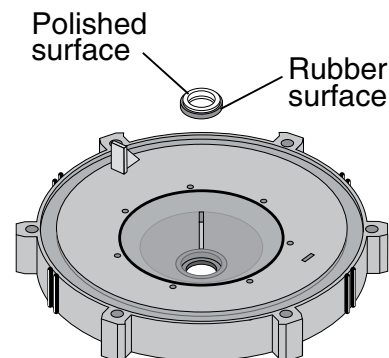

Figure 6
1. Ceramic seat must be clean and free of dirt, grease, dust, etc. Wet outer edge with small amount of liquid detergent; press ceramic seat into seal plate cavity firmly and squarely with finger pressure (Figure 6).